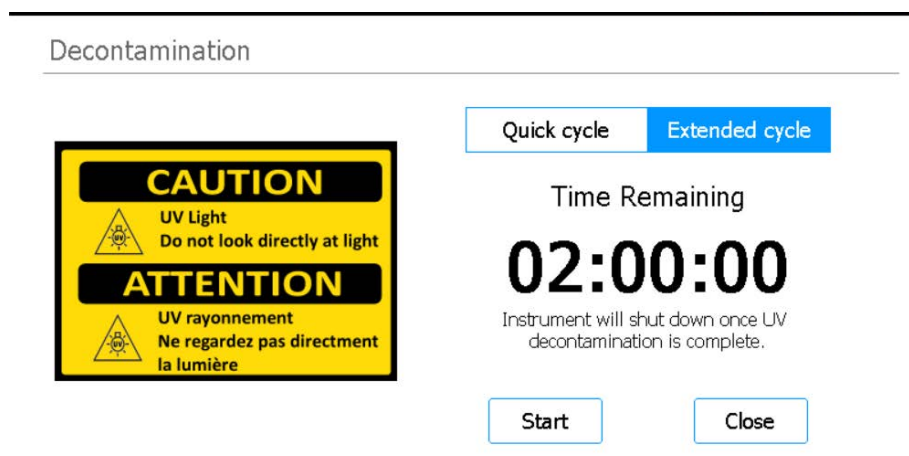

Figure 22 Decontamination screen with Extended cycle selected
- 3 At the top of the screen, select **Extended cycle**, as shown in Figure 22.